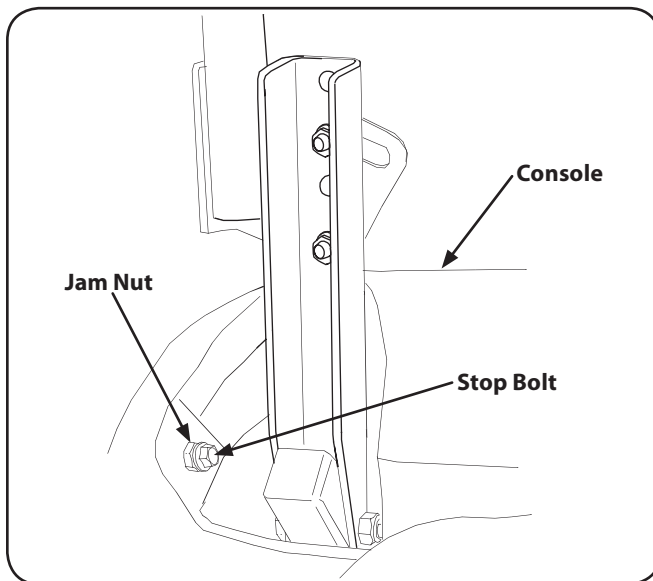

Figure 7-11
5. Locate the applicable stop bolt on the left or right console. See Fig. 7-11.